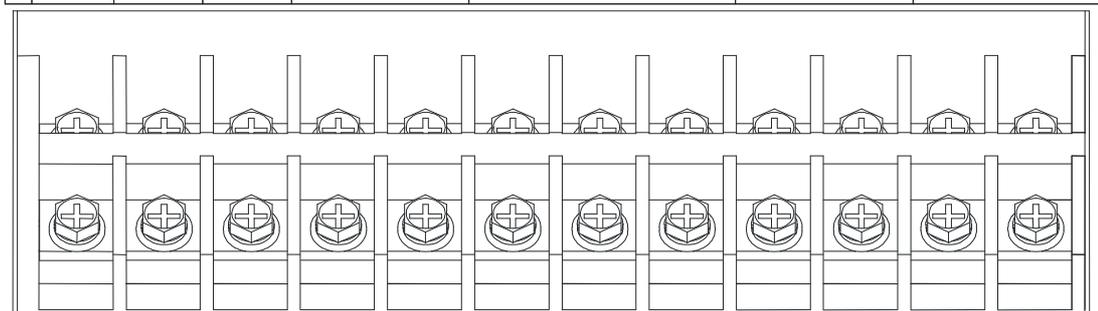
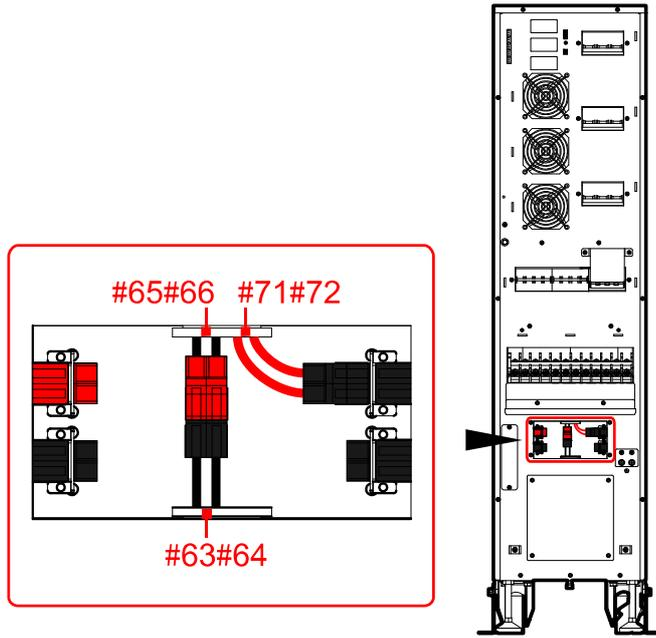
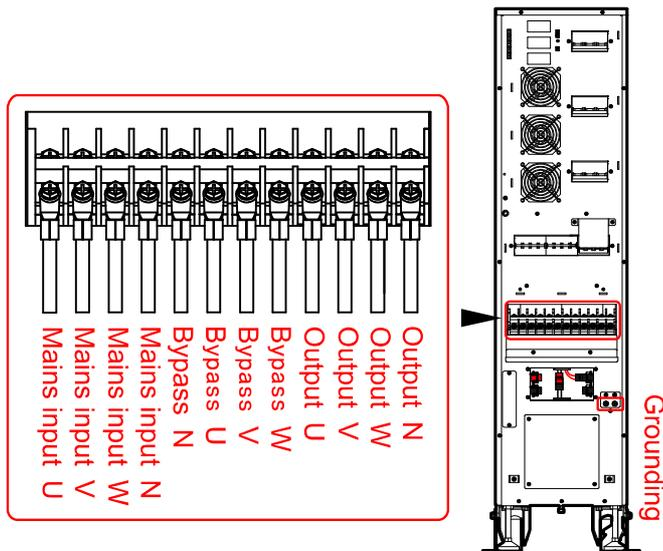
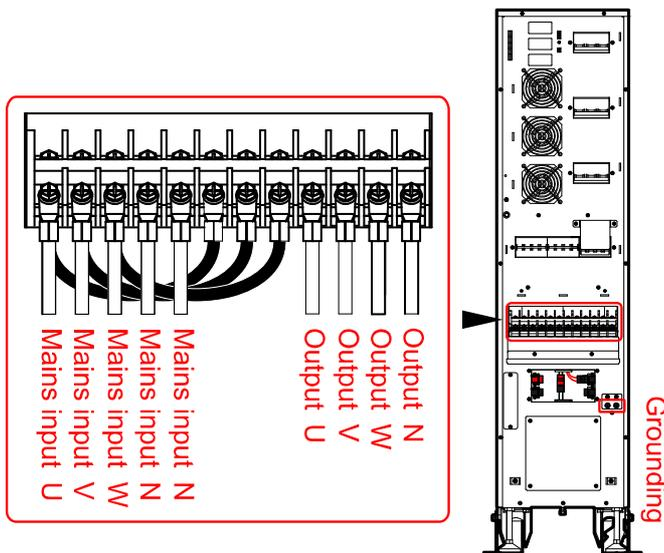

Figure3-19 Wiring terminal silk-screen
Figure3-20 Mode connector of default factory
Figure3-21 Wiring diagram of 33 mode
Figure3-22 Wiring diagram of 33 mode
Step 2 The 30/30S/30T/40/40S/40T mode includes 33 and 31, the corresponding silk-screen shown in Figure3-19. The default factory mode connector setting of the UPS is 33 mode (as shown in Figure3-20), the position of the mode connector and wiring terminal needs to be changed when the UPS mode to determines modify.
The mains input and bypass input are connected separately when the mains input and bypass input have different input sources. The mode connector is default factory as shown in Figure3-20. Connect the wires to corresponding port according to the silk-screen. The wiring diagram of 33 mode UPS as shown in Figure3-21.
The bypass input is connected to the mains input by short circuit wire when the mains input and bypass input are same input sources. The mode connector is default factory as shown in Figure3-20. Connect the wires to corresponding port according to the silk-screen. The wiring diagram of 33 mode UPS as shown in as shown in Figure3-22.